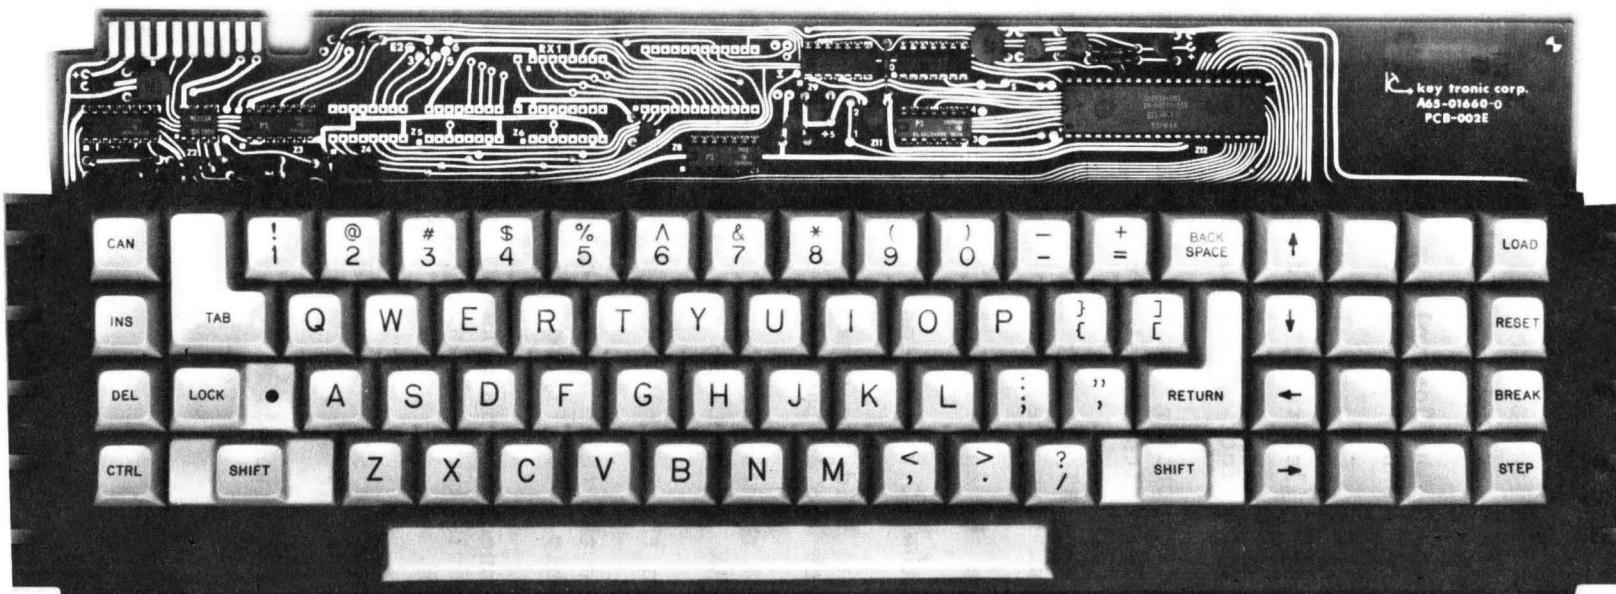

Figure 3-6. PCB Keyboard Subassembly
See Figure 3-6, PCB Keyboard Subassembly.
- b. Remove the two screws on the bottom of the console labeled "AC/FAN PANEL SCREWS" in Figure 3-6, PCB Keyboard Subassembly.